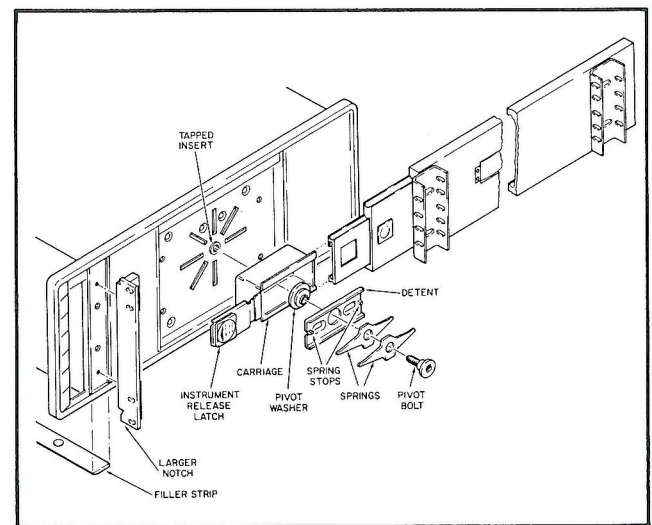

Figure 2-1. Rack and Slide Mounting
2-15. The Model 5085A is supplied with extension slides as an accessory. These slides permit sliding the instrument out of its rack and tilting for repair or maintenance. Parts necessary to prepare the Standby Power Supply for operation as a slide-mounted rack instrument are supplied as an installation kit with the instrument. (See Figure 2-1.)
2-21. ROTATING ADAPTERS. To mount rotating adapters, refer to Figure 2-1 and proceed as follows:
a. Apply Lubriplate or similar lubricant to casting surfaces where detent will ride, to both sides of pivot washer, and to underside of pivot-bolt head. Do not lubricate pivot-bolt threads or threads of tapped inserts in side castings. Apply lubricant liberally to inside corners at top and bottom of carriage (see Figure 2-1) where detent will ride as instrument is rotated into and out of detent positions.
b. Assemble adapter parts in the order shown in Figure 2-1. The tapped inserts supplied with the adapter kit are not needed, since the Model 5085A castings have inserts installed. If the detent springs have different curvature, place the spring with the greater curvature on top. See that springs are centered against spring stops while tightening bolt. The instrument release latch, labeled DEPRESS THEN REMOVE, faces toward front of instrument.